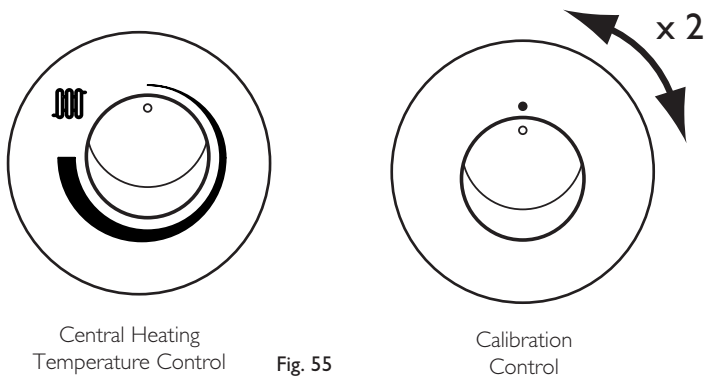

Fig. 55
5. Turn both temperature control knobs fully anticlockwise, then quickly turn the Calibration Control knob 1/4 clockwise twice and back fully anticlockwise (Fig. 55).